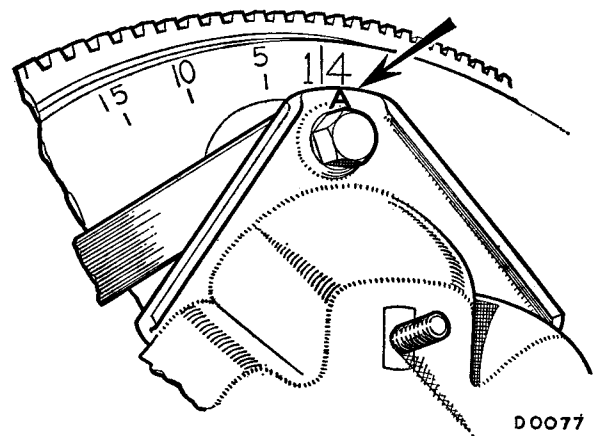

Fig. E.2
- (2) Mark the driving pins, driving straps, and the housing so that these parts can be refitted in their original positions. Note the clutch balance mark (Fig. E.2).
- (3) Insert the three screws (Service tool 18G 304 M) through the recessed holes in the pressure spring housing and screw them into the flywheel.
- (4) Screw the nuts down against the housing with the fingers and then tighten them one turn at a time until the load is off the driving pins.
- (5) Unscrew the three driving pins.
- (6) Unscrew the nuts of the Service tool 18G 304 M, gradually releasing the housing. Remove the housing and the springs.
NOTE.—When reassembling, fit the pressure plate to the clutch cover with the marks 'A' adjacent to each other and fit the clutch unit to the flywheel as shown in Fig. E.2.